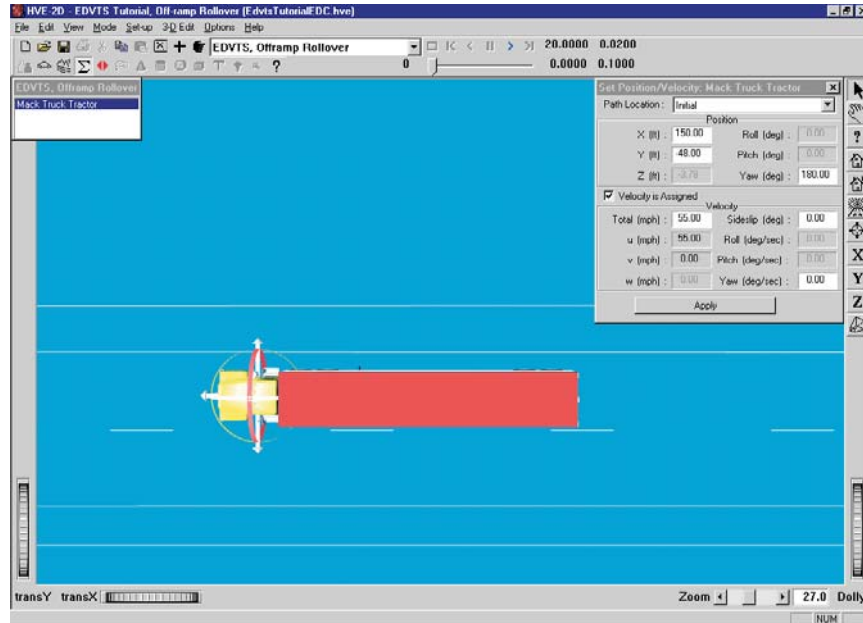

Figure 5-10 Vehicle positioning using the Event Editor. The manipulators can be used to *drag and drop* the vehicle into position.
- Click on the Mack truck's X-Y manipulator (see Figure 5-10), wait for it to turn bright yellow (indicating it has been selected), and drag it to its initial position, X=280.0 ft, Y=-48.0 ft (for HVE, X=150.0 ft, Y=-48.0 ft). In the Position/Velocity dialog, enter a heading (yaw) angle of 180.0 degrees.
**NOTE:** To select the X-Y manipulator, the viewer must be in *Pick* mode, as indicated by the highlighted arrow in the upper right corner of the viewer (see Figure 5-10).